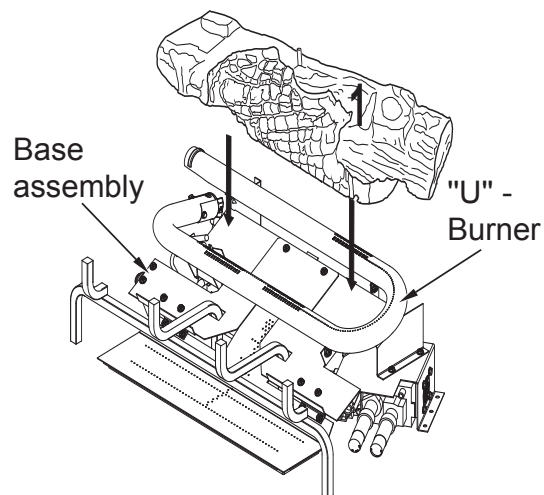

Figure 38 - Installing Log # 1
1. Place the rear log (#1) on base assembly as shown in **Figure 38**. Log will fit over right end of burner and rest in middle of U-burner.